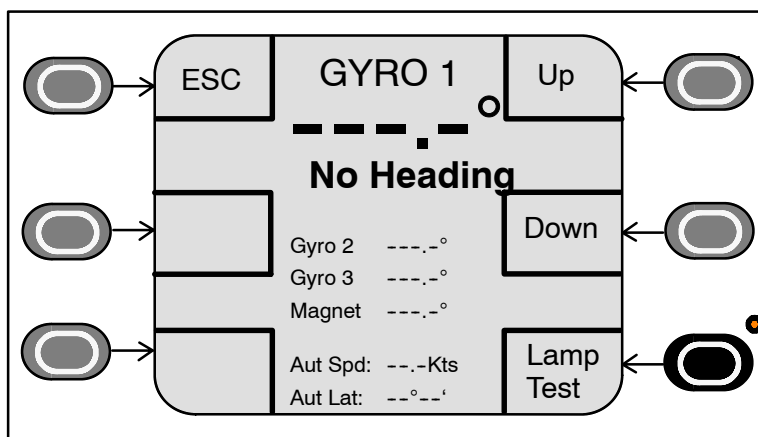

Figure 18: Controls and Indicators on the Operator Unit
Magnetic Sonde selected: First a “Distribution Err.” is displayed, than quit, than the message according to Figure 18 is displayed.
Gyro selected: First a “Sensor Error” is displayed, than quit, than the message according to Figure 18 is displayed.
- 2.) All the information is faded out and replaced with horizontal dashes (see Figure 18).